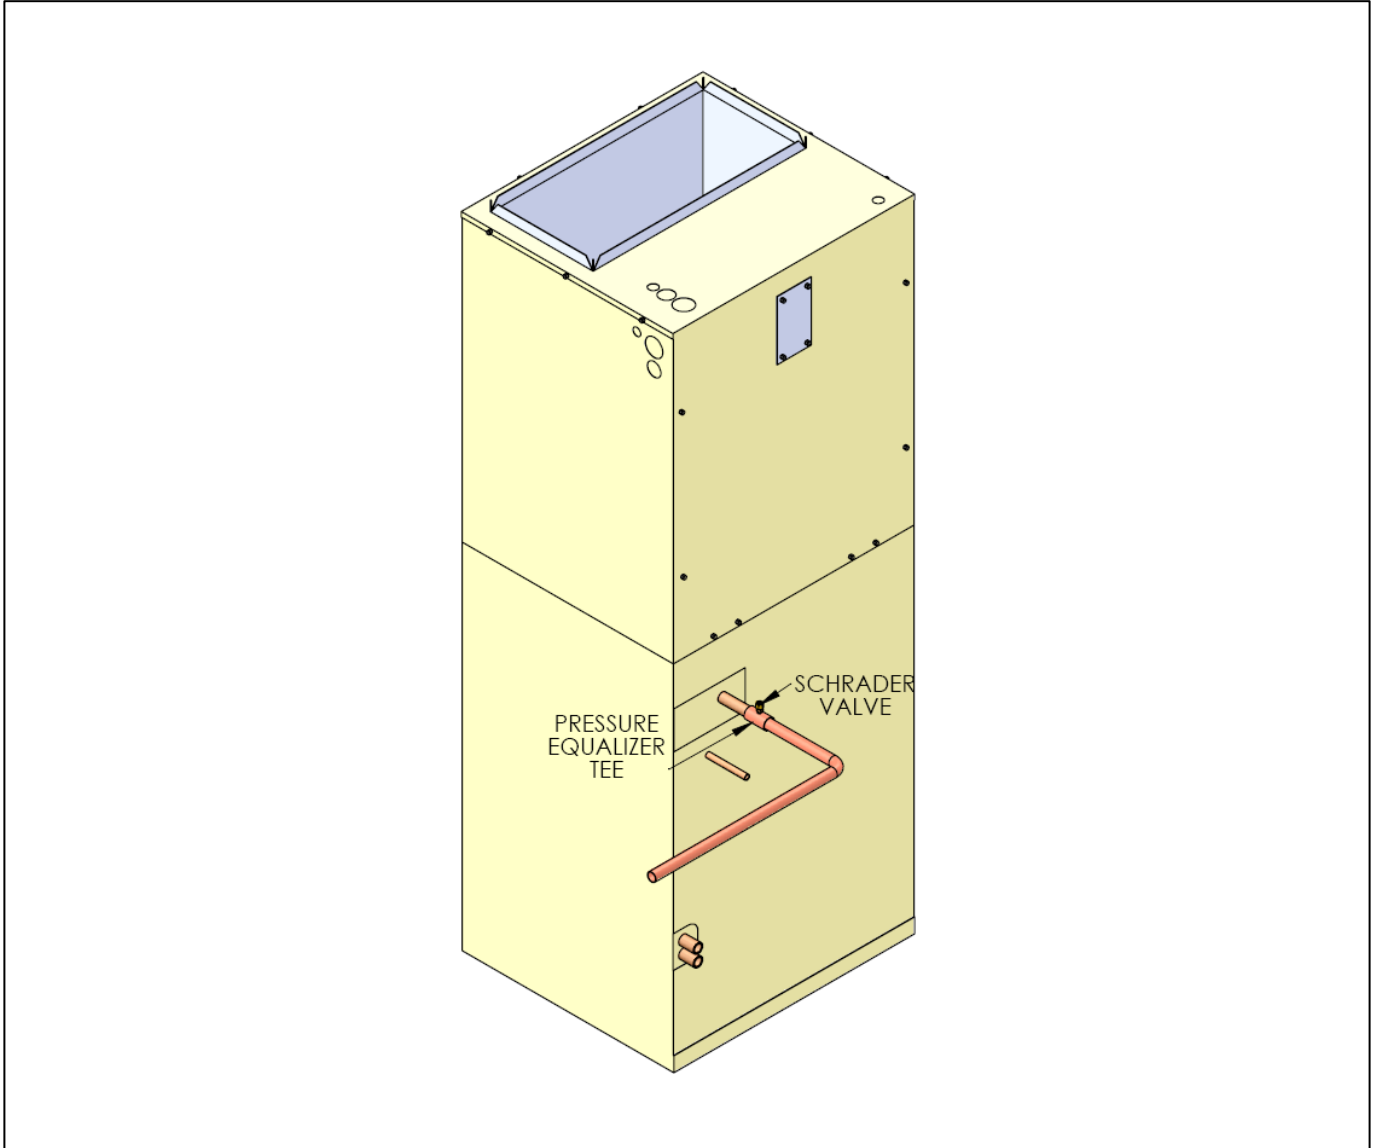

Figure 9. Positioning the Pressure Equalizer Tee
Step 2: After removing the plug from the suction stub out and cutting the valve off the liquid line, **position the Pressure Equalizer Tee** on the suction tube stub out as shown in Figure 9. Remove the core from Schrader valve on the Tee.